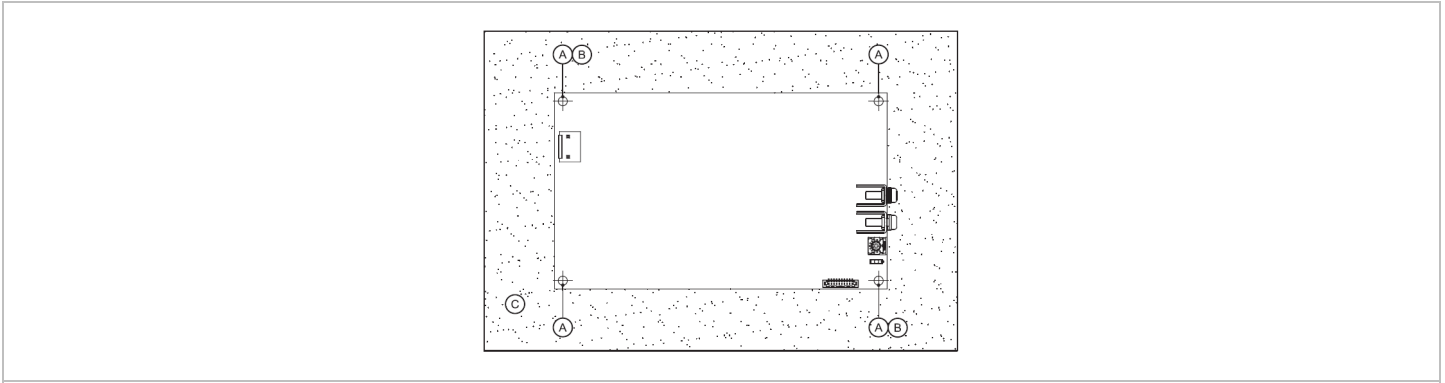
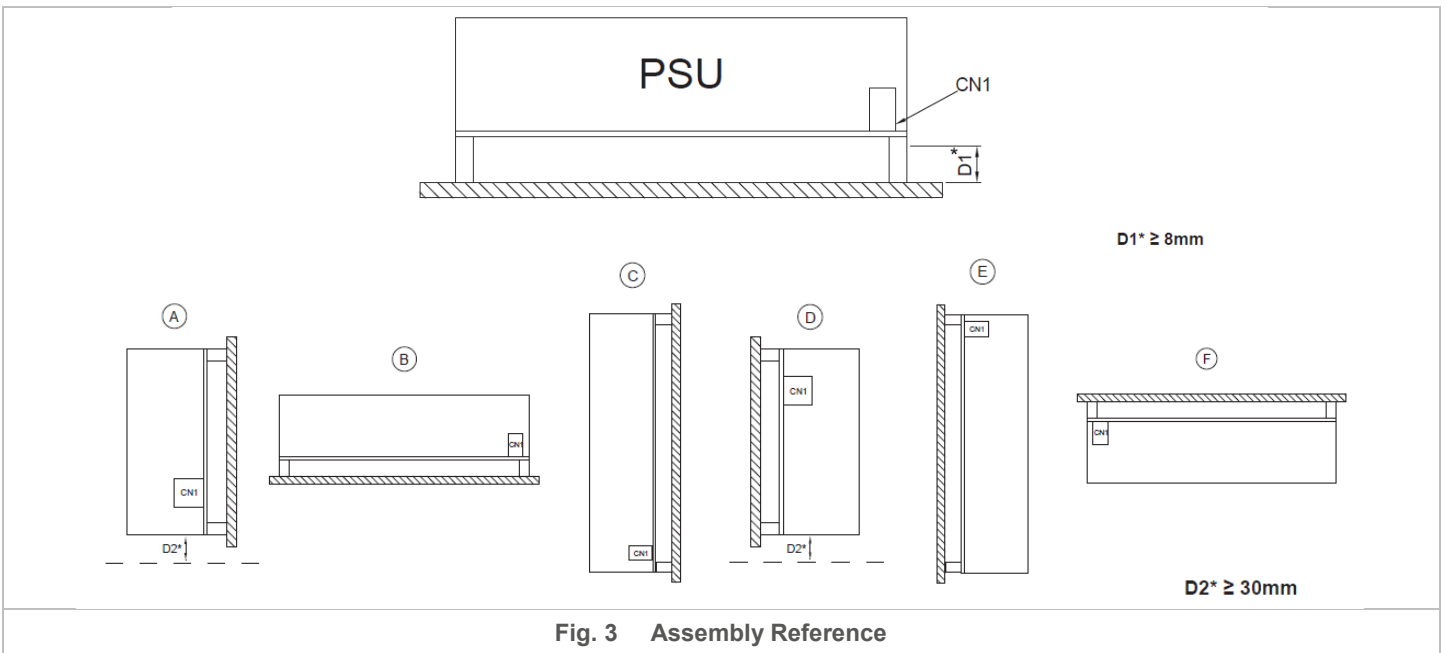

Fig. 2 Installation of the Device
Fig. 3 Assembly Reference
- Please insert an insulation sheet between the system and product, if the safety distance is < 8mm for D1 (Refer to Fig. 3 Assembly Reference)
- For (A), (D) orientations, ensure sufficient convection cooling, always maintain a distance of  $\geq 30\text{mm}$  for D2 below the device while the device is in operation.
- For Protection against shock to Class I with PE (protection earth) and Class II with or without FG (functional ground) product, the two mounting holes (marked (B) in Fig. 2) need to be connected together to the system's protective earth or functional ground. Pollution degree and EMC performance with different connections please refer to environment and EMC section.